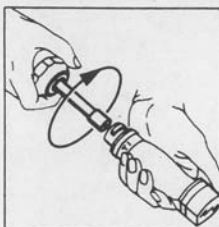
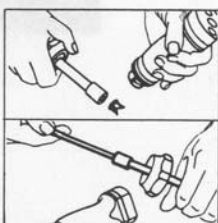

fig. 1
fig. 7, fig. 7a
7. Unlock hex collar G-5 (see fig. 1). Pull out power ram assembly and remove used cap. Occasionally cap may wedge in ram. To remove, use cap ejector end of Allen wrench G-33 (fig. 7).